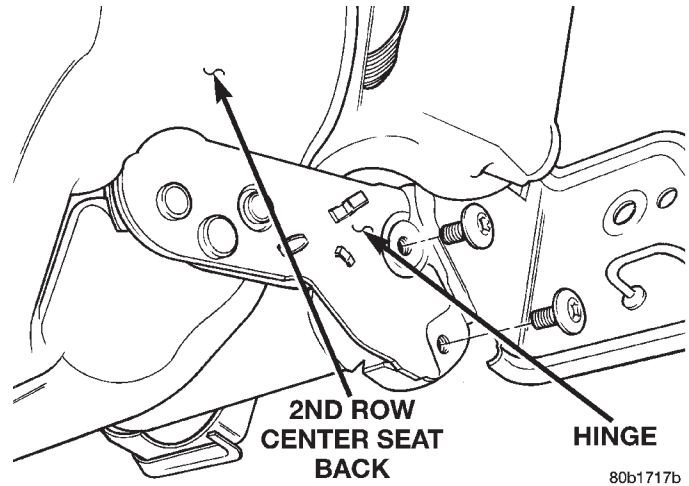

Fig. 13 2nd Row Center Seat Back
- (4) Remove bolts attaching center seat back to seat cushion (Fig. 13).
- (5) Separate center seat back from seat cushion.
- (1) Position center seat back on seat cushion.
- (2) Install bolts attaching center seat back to seat cushion (Fig. 13). Tighten bolt located in round hole first than bolt located in slotted hole. Tighten bolts to 27 N·m (19 ft. lbs.) torque.
- (3) Install covers on center seat back to seat cushion hinge.
- (4) Install screw attaching cover to hinge.
- (5) Return outboard seats to seating position.